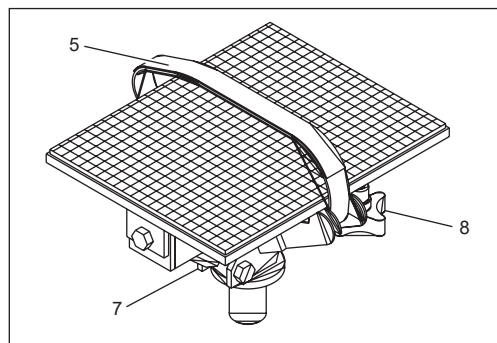

Fig. 9:
- To do so adjust the shaft (Fig.9/7) with a fork spanner for the appropriate incline axle resp.
- loosen the corresponding hand wheel (Fig.9/8) and adjust the opposite hand wheel.